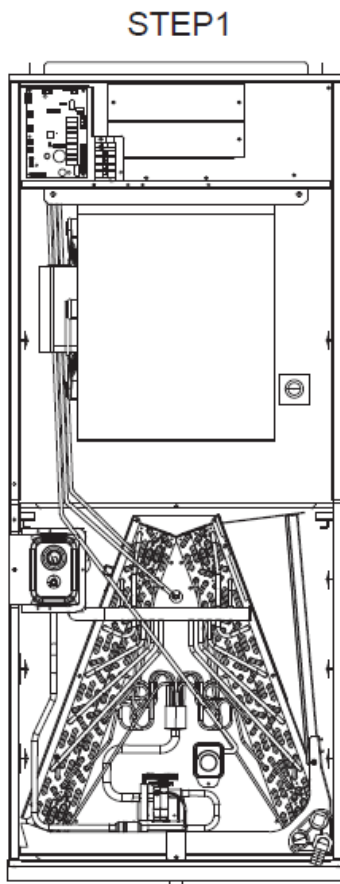

Figure 4.1
1. Remove the screws and the front panel, and disconnect the plug of T1 sensor 、 T2 sensor and leak detection sensor wire from the circuit board (Figure 4.1, Step 1).
detection sensor wire from the circuit board (Figure 4.1, Step 1).